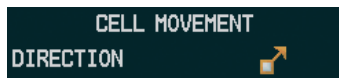

Figure 6-21 Cell Movement Legend
- 1) Press the **MAP** Softkey (for the PFD Inset Map, press the **INSET** Softkey). This step is not necessary on the Weather Data Link (XM) Page.
- 2) Press the **NEXRAD** Softkey (**CEL MOV** Softkey on the Weather Data Link (XM) Page). For Cell Movement to be displayed on maps other than the Weather Data Link (XM) Page, Cell Movement must be turned on in the Navigation Map Setup Menu (see "Setting up and customizing weather data for the Navigation Map Page").
To display the Cell Movement legend on the Weather Data Link (XM) Page, (Figure 6-21), press the **LEGEND** Softkey when Cell Movement is selected for display.